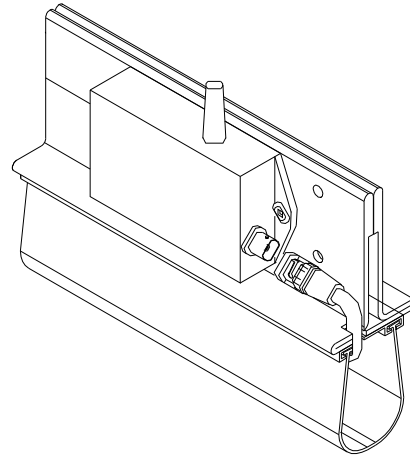

FIG. 9
- a. attach using hardware provided attach Bottom Bar Controller to the front right side of the bottom bar (Figure 9).